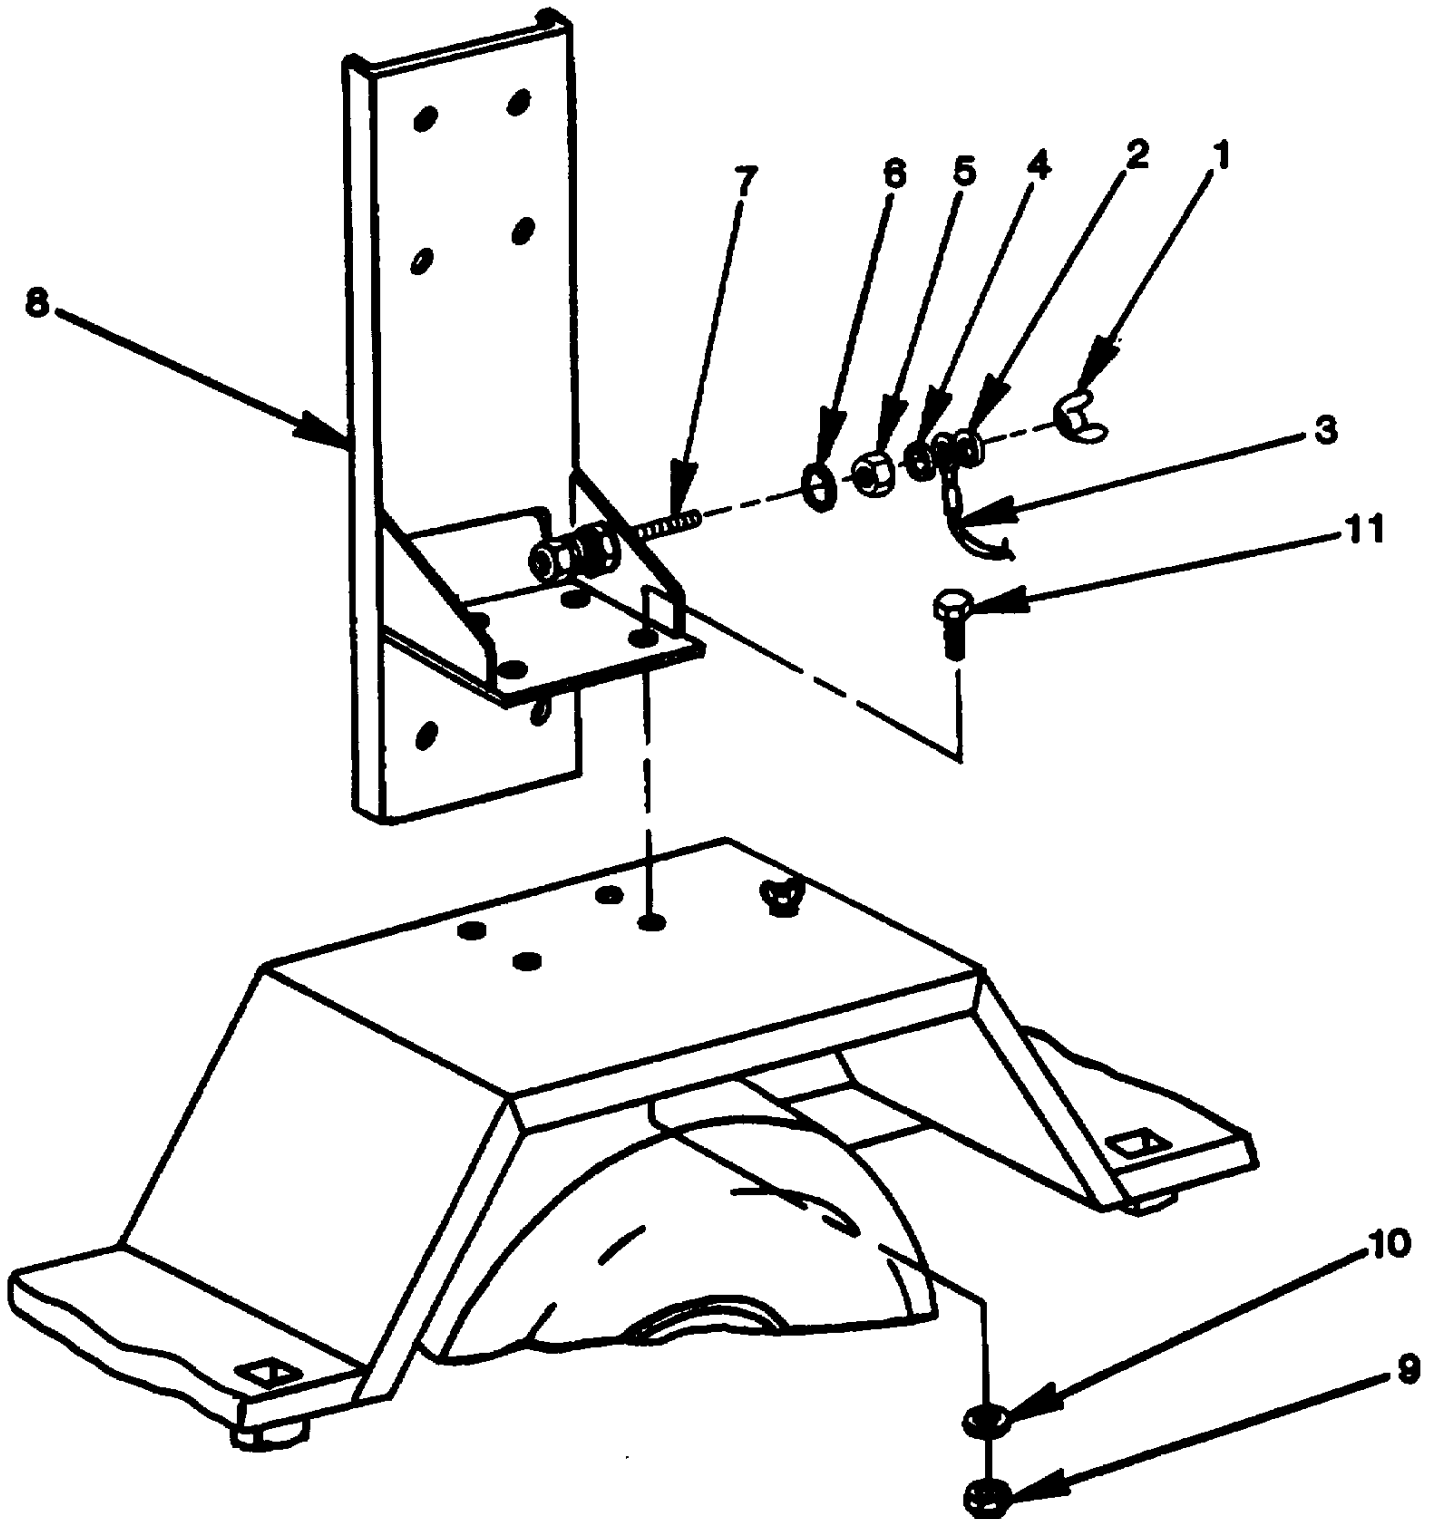

Figure 4-20. Switch Box Bracket Replacement.
- (1) Remove switch box (paragraph 4-19c(1)).
- (2) Remove six locknuts (9, figure 4-20) (if AN/MJQ-33) or four locknuts (if AN/MJQ-32), flat washers (10), and screws (11) securing bracket (d) to roadside fender (if AN/MJQ-33), or roadside rear fender extension (if AN/MJQ-32).
- (3) Remove bracket from fender or fender extension.
- (4) Remove wingnut (1), washer (2), ground wire (3), washer (4), nut (5), and star washer (6) securing ground stud (7) to bracket (8).